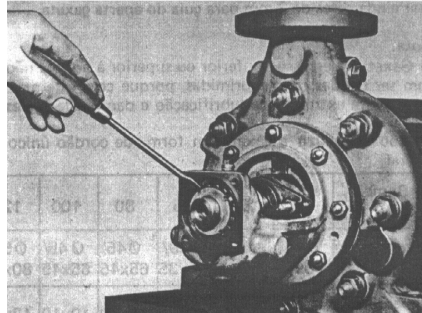

Fig. 2
- Loosen the tab of the locking plate that locks the Bearing's Bushing Fixture, using a pin or the tip of a screwdriver. (See fig. 2)